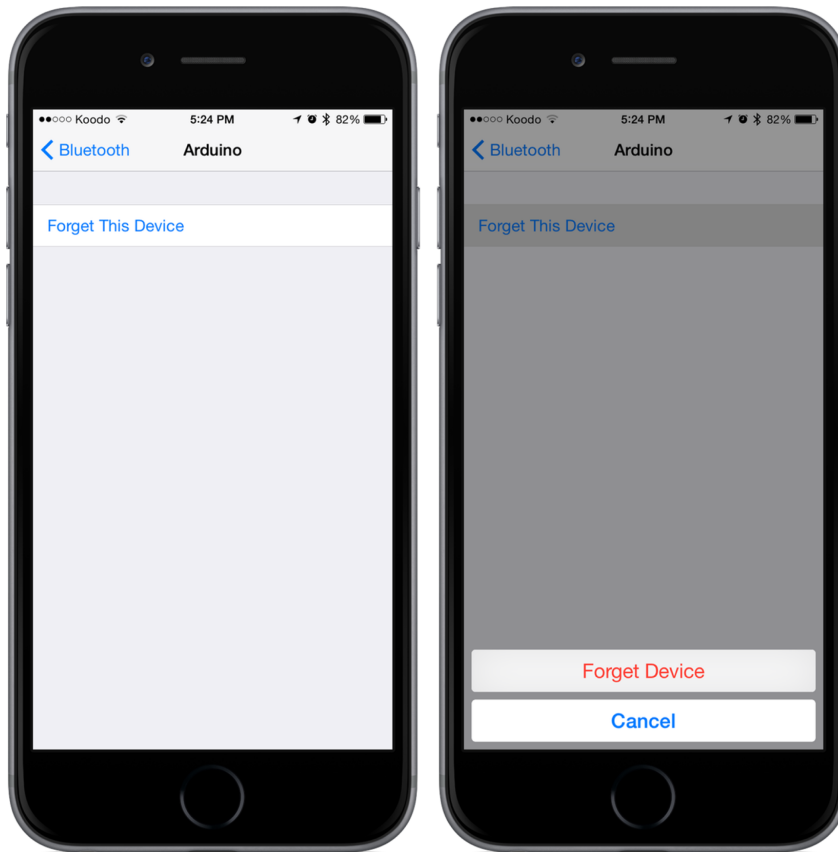

Figure A-3 Left: Unpairing a device on iOS; Right: Confirming that you want to unpair a device on iOS
3. Touch “Forget This Device” (Figure A-3, left).
4. Confirm by touching “Forget Device” (Figure A-3, right).